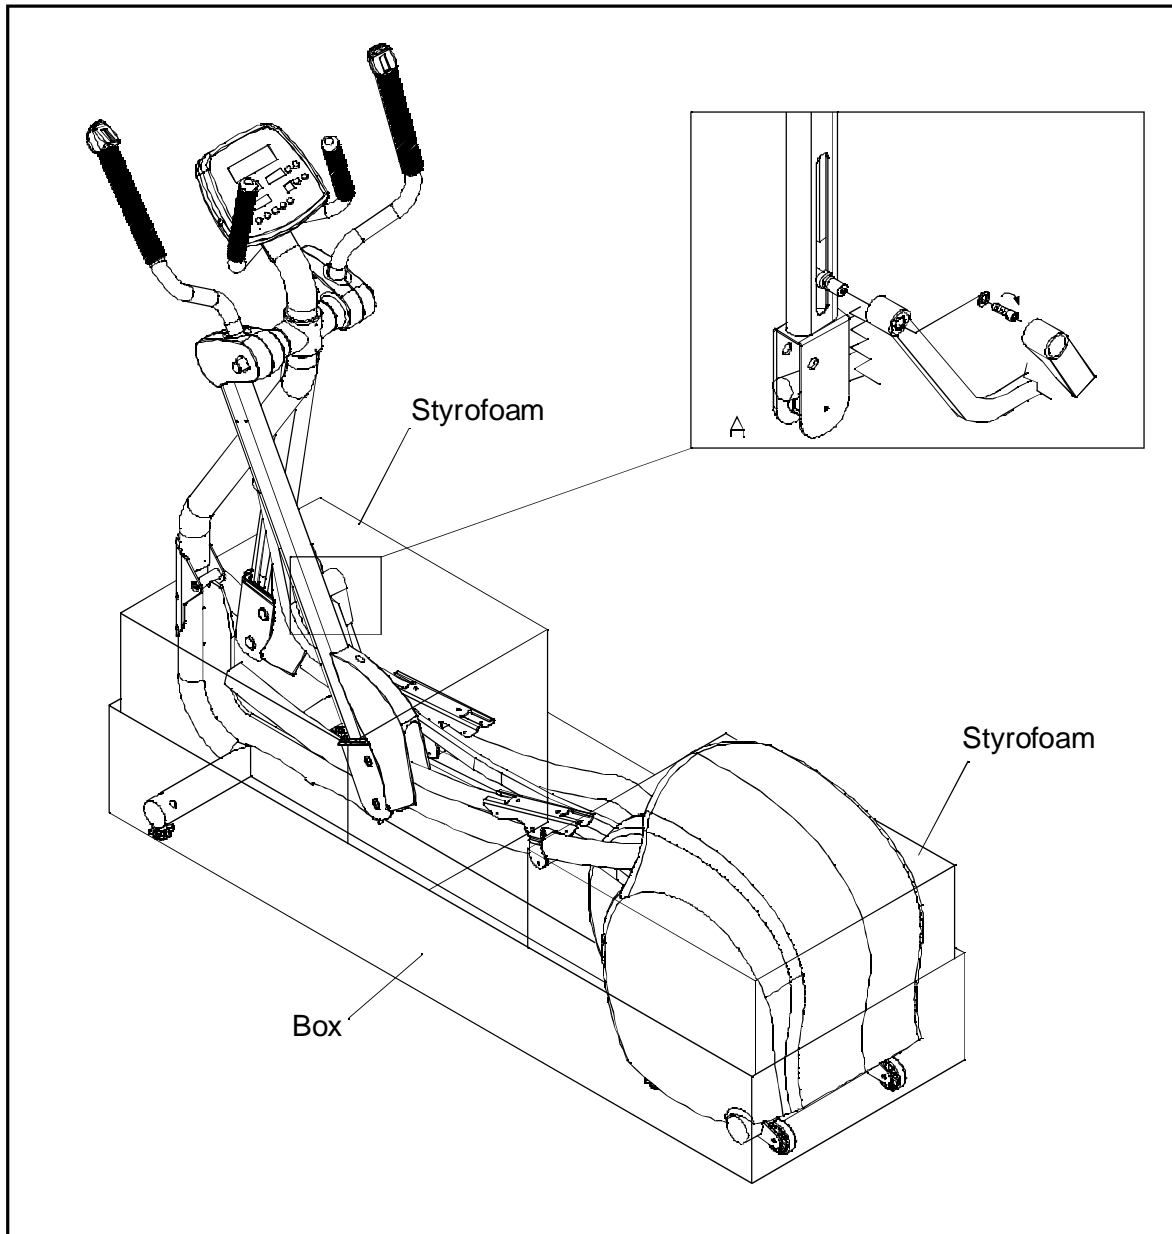

Fig.4
Note: Do not remove the lower box and Styrofoam until you finished assembly step 5 (see Fig 4)
5. Insert the protrusion on the linkage into its place on the rocking bar and secure with screw as shown in diagram A, then cover with the end cap. Following that remove all the Styrofoam and packing box. (see Fig 4)